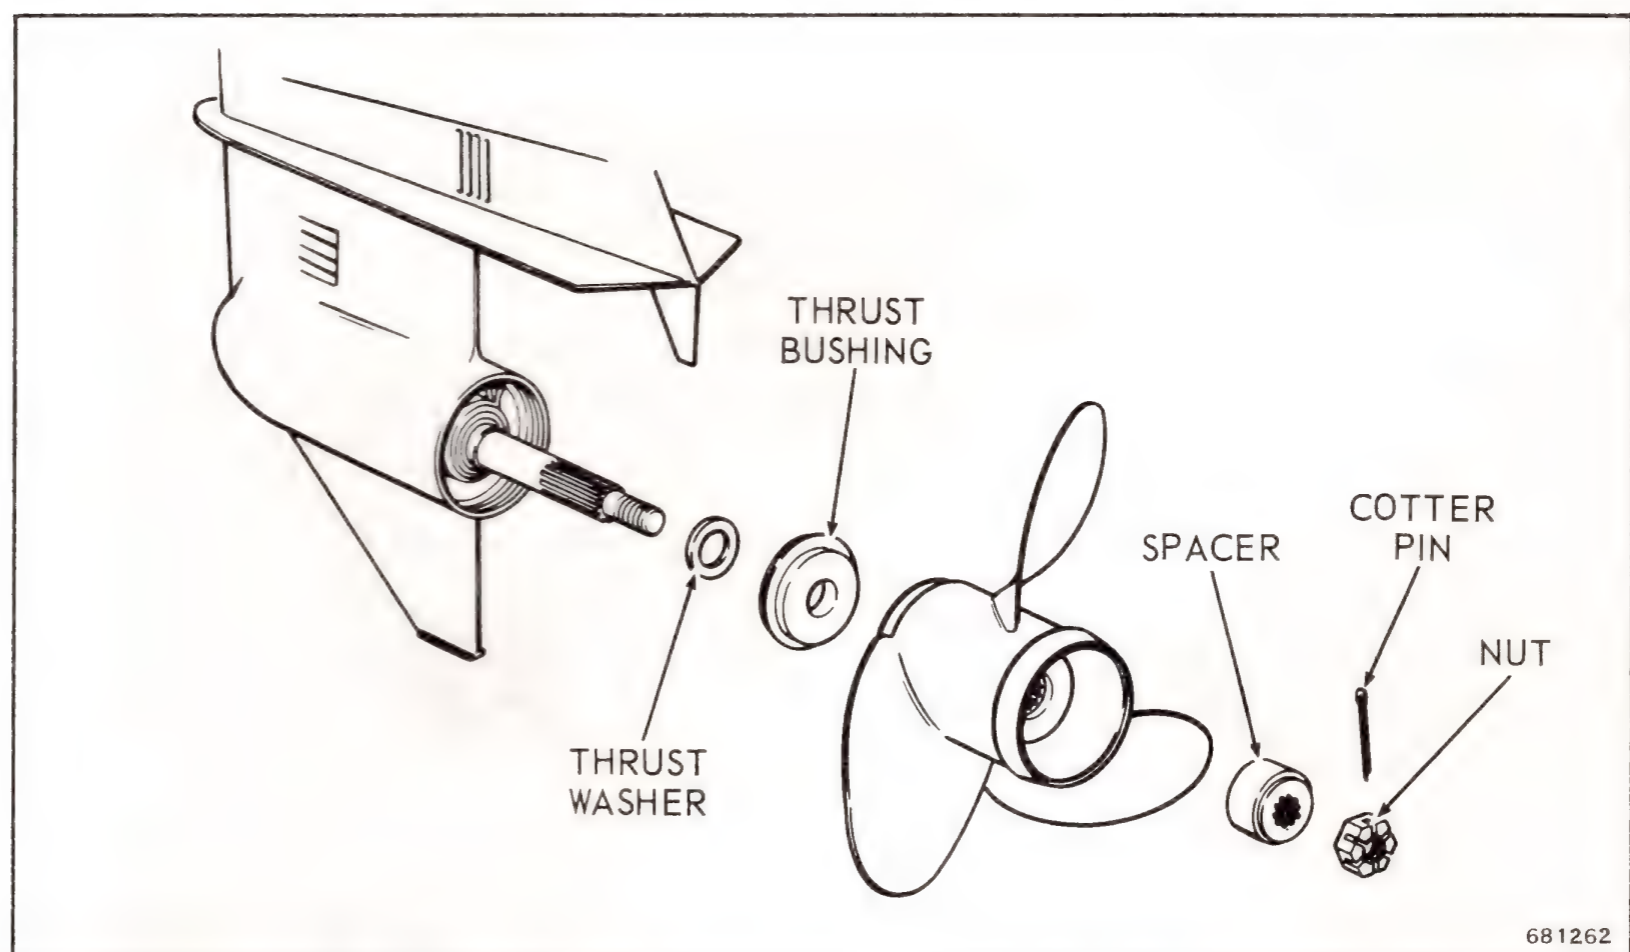

Figure 6-37. Propeller Installation
- y. Lubricate propeller shaft and install propeller. See Figure 6-37.